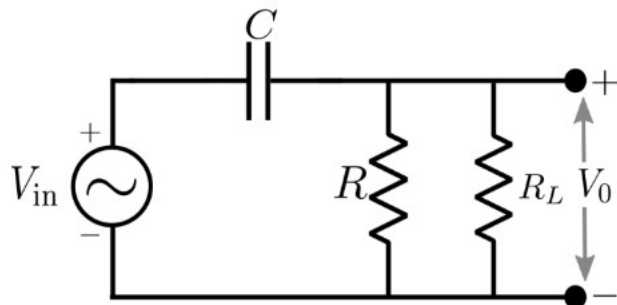

Figure 3: High-pass filter RC circuit
Consider the circuit as shown in Figure 3. The total voltage drop is the sum of individual voltage drops across the capacitor and resistor -
3. Calculate the cut-off frequency by substituting the values of R and C used into Equation (5). Let this value be f_c^{th} .
10. Now, interchange the position of R and C in the circuit to construct a circuit as shown in Figure 3.